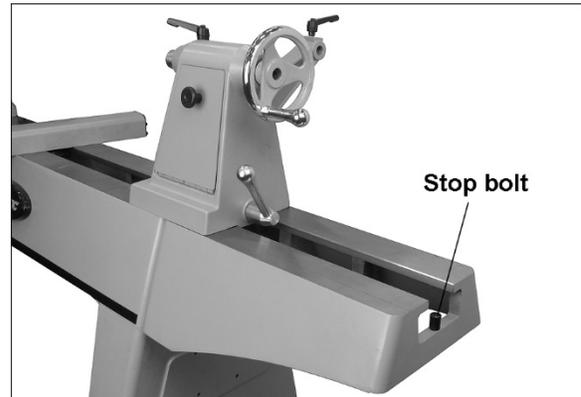

Figure 6-6: optional 20" bed extension
2. Have an assistant hold the bed extension flush to end of Lathe bed, and insert four 3/8 x 1-3/4 socket head cap screws with lock washers and flat washers (provided with extension bed) through top holes and lower slots in bed extension into threaded holes on Lathe. See Figure 6-6.
4. Slide tailstock over joint where beds meet, so that clamping nut is centered over joint (Figure 6-6). Lock tailstock clamping handle; this will align the beds.
7. Unscrew stop bolt from Lathe bed (Figure 6-6), and screw it into hole at end of bed extension.
To remove headstock, tailstock or tool support base from bed, unscrew and remove stop bolt at either end (see Figure 6-6). NOTE: After re-mounting these items on the Lathe, always insert stop bolt.